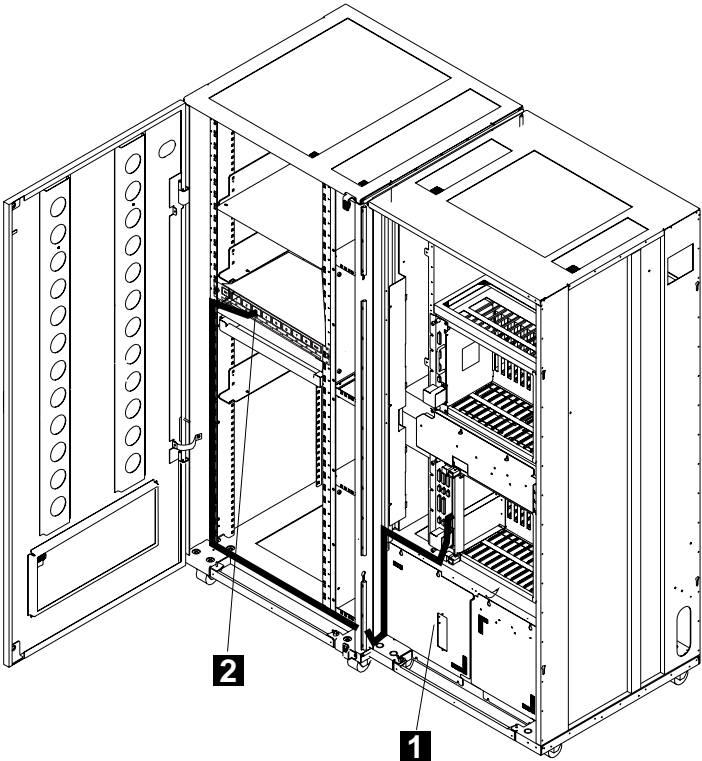

Figure 2-31. Connection of the 3746-950 to the 8228 (Controller Expansion Attached)
- **Attached** to the controller expansion frame, refer to Figure 2-31 on page 2-29